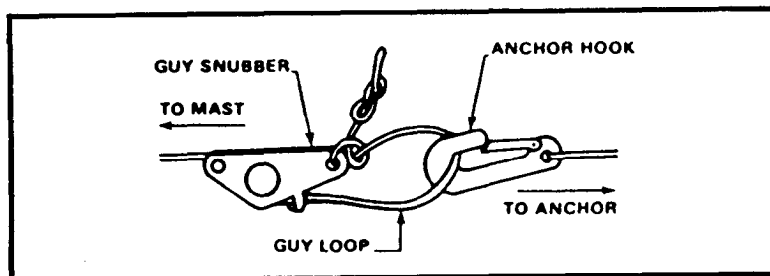

Figure 3-6. Attaching guy loops to ground anchor.
- b. Extend the guy assemblies to the side and back anchor hooks and attach the guy loops (Figure 3-6).
- d. Extend the upper guy assemblies to the side and back anchor hooks and attach the guy loops (Figure 3-6).
- (1) Connect the free guys to the remaining guy stake assembly (Figure 3-6) and tighten the guys.
- (2) Adjust all the guy ropes evenly. Check for vertical position by comparing the mast with a building, pole, or other vertical object.